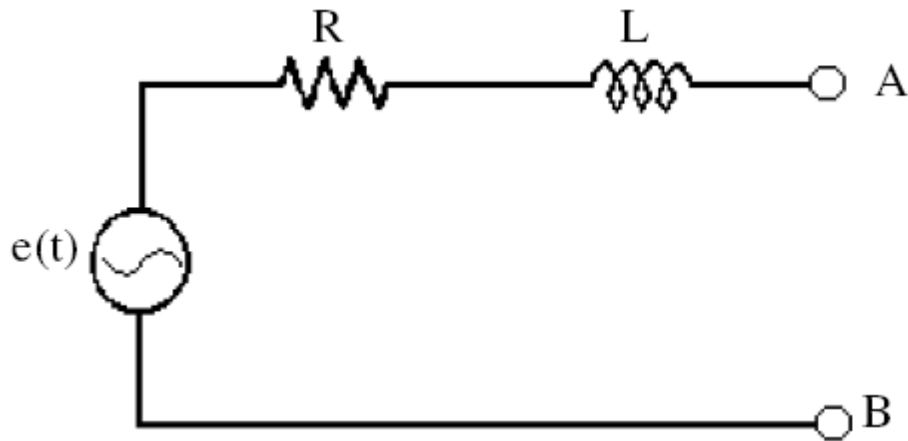

Figure 11
The structure of equation (9) is same as equation (1). You can apply all steps for RL circuit like as RC circuit. The circuit shown in Figure 11 can be used for modelling an energy distribution system simply. Here, $e(t)$ is a source with 50Hz frequency.